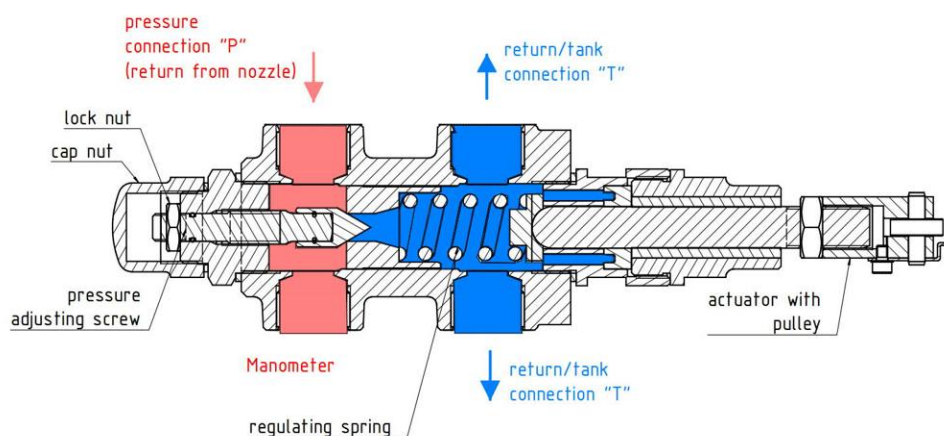

Fig.1 Operating principle
- Should there be no manometer attached, please remove the plug screw and fit one to the unused pressure connection "P" (Fig. 1).
- hp-regulating valves have been with relaxed actuator and factory-set to the lowest possible pressure level of the respective pressure stage. In order to set the desired operating pressure, first remove the nut and the seal ring (see Fig.1) to reveal the adjusting screw beneath – screw off the lock nut.
- Now switch on the unit's pump and turn the adjusting screw to the right to adjust the operating pressure to the desired setting (turn the setting screw to the right – clockwise -> to increase the pressure, turn the setting screw to the left – counterclockwise -> to decrease the pressure. For a reading of the set value, Section 4.13 of DIN EN 12514-2, Issue 2000 calls for a manometer to be attached to the unit. Should there be no manometer attached, please remove the plug screw 2 (see Fig.1) and fit one to the manometer connection.
- After adjusting the pressure setting to the desired level, screw on the lock nut and replace and retighten the cap nut + the seal ring (see Fig.1).